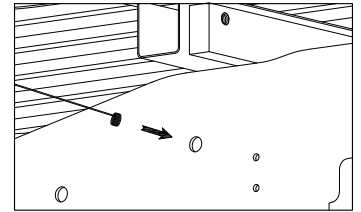
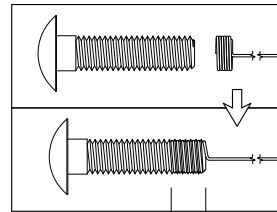
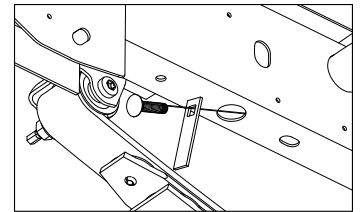

Figure C2: View from outside of Driver Side Frame.
Figure C3: Fish wire diagram.
Figure C4: View looking up at rear of driver side frame
2. **Fish carriage bolts through frame.** A fish wire will be required to install the 1/2" X 2" Carriage bolts which hold each sideplate in place. Start by locating the mounting hole in the side of the frame, shown below in figure C2. Feed the coiled end of the fish wire through the hole until it is visible in the 1-1/2" hole near the back of the frame as shown in figure C4. Attach a locking strap and the 1/2" X 2" carriage bolt to the fish wire as shown in figures C3 & C4. The locking strap should not be inserted into the bolt while passing through the frame. Once attached, carefully pull the fish wire back through the frame. Pull the carriage bolt out of the hole in the frame, ensure that the carriage bolt has been pulled all the way through the locking strap and the bolts rotation is restricted.